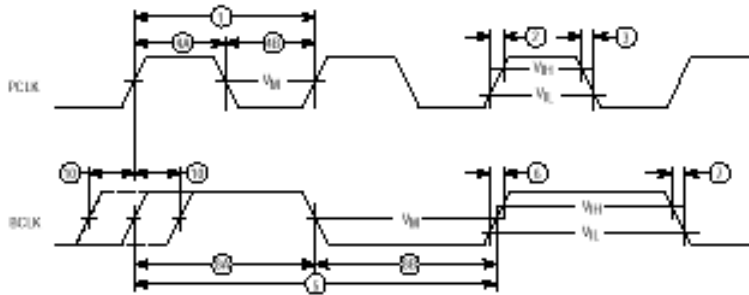

Figure A-4. Clock Input Timing Diagram
A.6.5 Clock AC Timing Specifications (see Figure A-4)